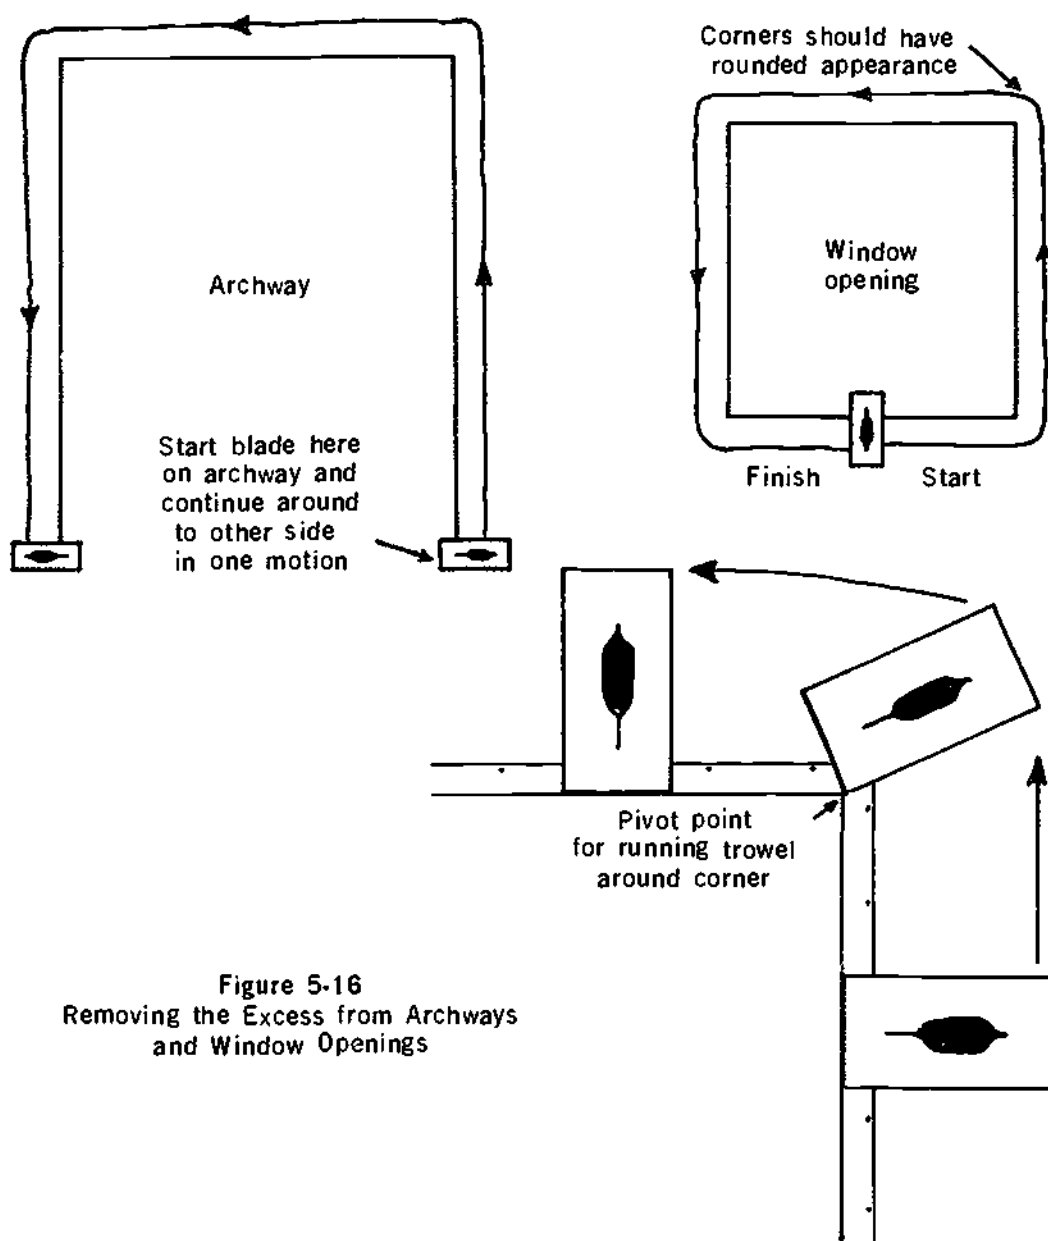

Figure 5-16
3. In removing the excess from an archway or window opening the object is to lift the blade from the bead as few times as possible. This eliminates ridges that are the result of joining wet filler. If you can position yourself to comfortably do so, remove the excess filler in one motion, starting at the bottom on one side and ending at the bottom on the other side (Figure 5-16) or, where bead completely surrounds the opening, at the same place you started (Figure 5-16). When you reach a corner, use it as a pivot point and turn the outer edge of the blade to leave a rounded edge.